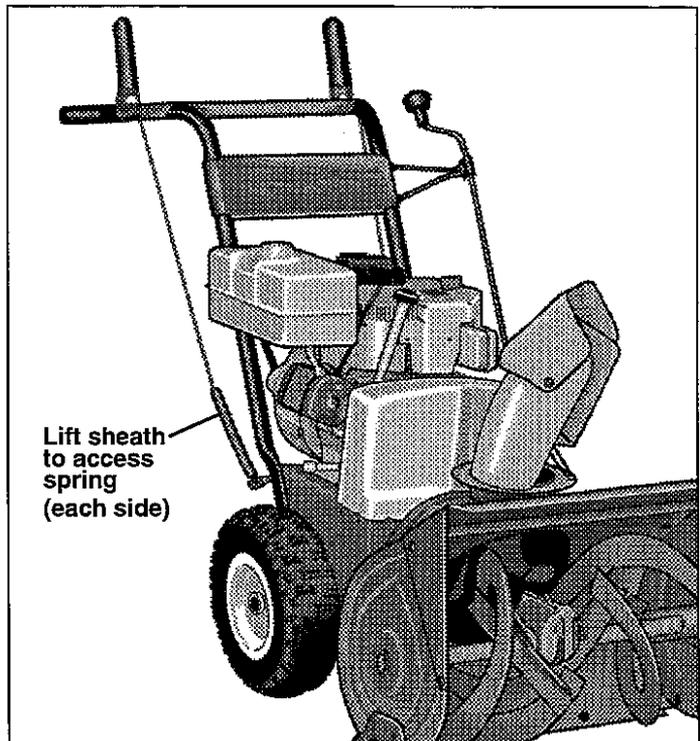

Figure 12. Drive Control Spring
NOTE: If auger or wheels continue to slip after adjusting the idler pulleys, the spring (figure 12) on either control rod might be stretched and worn and require replacement. Replace either the auger control rod spring or drive control rod spring as necessary, then repeat steps 1 - 4.
2. Have someone hold both the auger and drive clutch levers tight against the handgrips (figure 12).